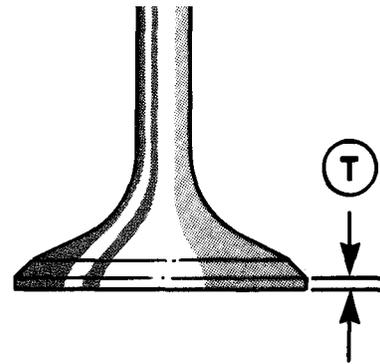

Figure 6-14
8. Measure thickness of rim. The minimum (T) is 0.031 in. (0.79 mm) (Figure 6-14).